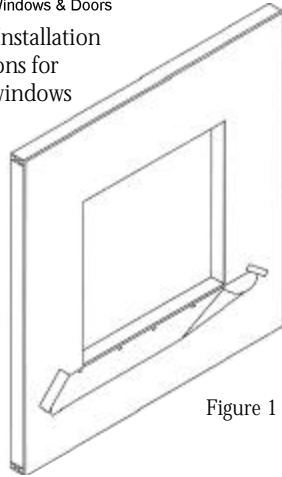

Figure 1
1. Cut sill flashing material to length (see Figure 1).